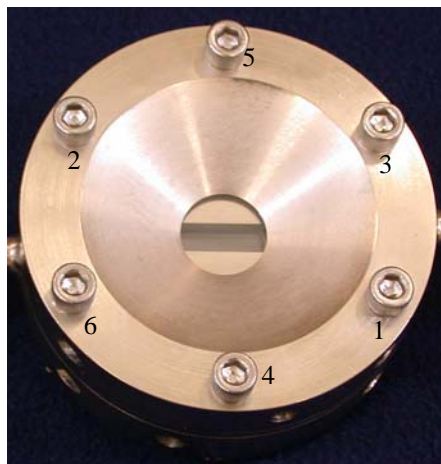

Figure 3 Suggest pattern for loosening and tightening CRV bolts
4. Loosen the six nuts and bolts a quarter turn at a time using a star/criss-cross loosening sequence as to distribute the release of pressure uniformly. A suggested pattern can be seen in Figure 3.
Slowly lift gas cell half with center plate and locating bolts. The center plate will help keep the window in place. Mate the two gas cell halves together. Slowly tighten the six nuts and bolts a quarter turn at a time using a star/criss-cross tightening sequence as to distribute the pressure uniformly, refer to Figure 3. **Note: If the windows are pinched due to an uneven tightening pressure of the cell bodies, the windows will crack. Overtightening can cause the window to fracture.**